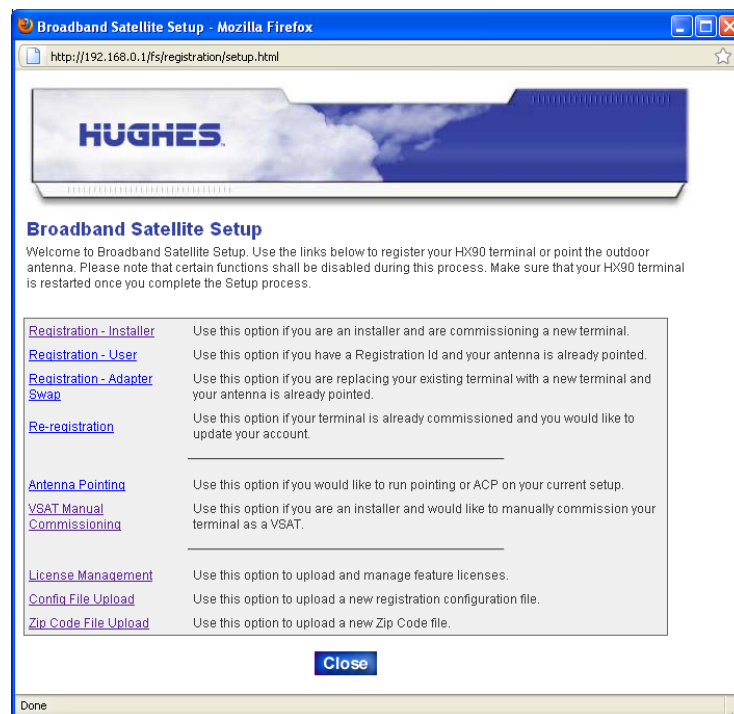

Figure 44: Satellite Setup menu
2. Type **http://192.168.0.1/fs/registration/setup.html** in the browser address bar and press **Enter**. The Satellite Setup menu opens (Figure 44 on page 58).